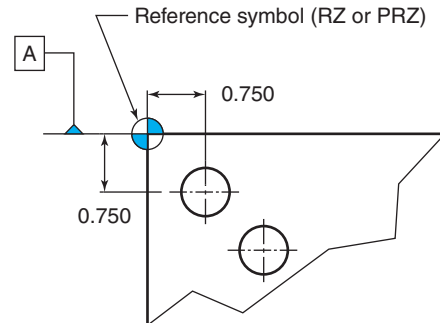

Figure 12-115 The symbol used to denote RZ or PRZ in setup documents.
That X-Y datum reference point is called the **program reference zero (PRZ)** in CNC programs and setups. On manual machines we call it the datum point, or the **reference zero (RZ)**. It's symbolized by a bull's-eye target Fig. 12-115.